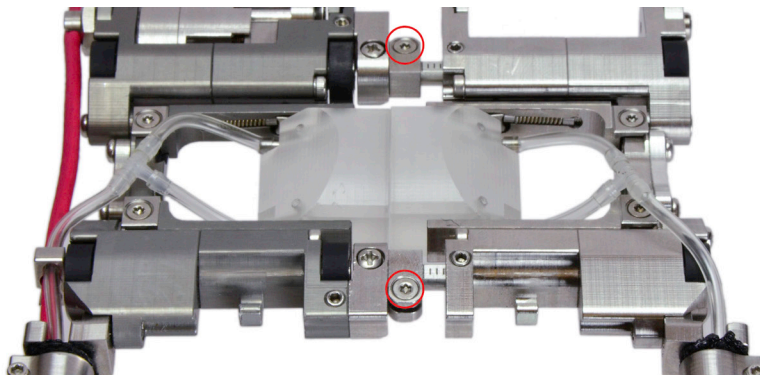

Figure 43
- f. Loosen the indicator clamp screws (Figure 43).